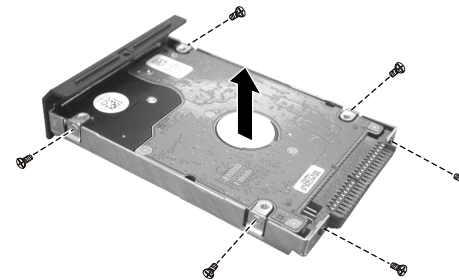

Figure 2-11 Disassemble the hard disk
3. Remove six screws to separate the hard disk drive from the metal shield. (Figure 2-11)